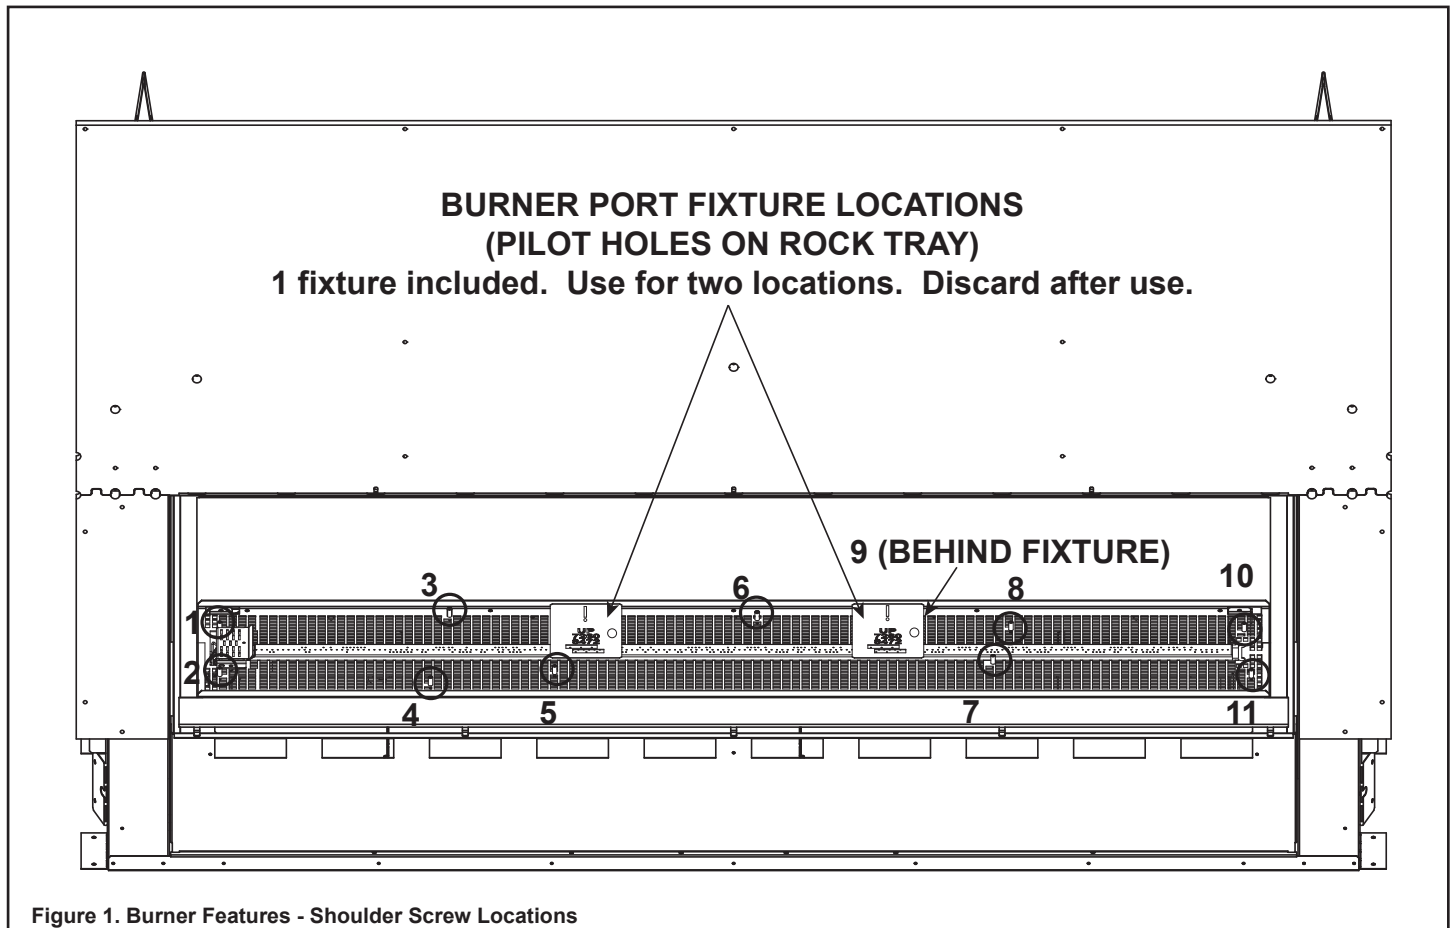

Figure 1. Burner Features - Shoulder Screw Locations
- Ceramic Logs (8)
- Shoulder Screws (11)
- Self-Tapping Screws (13)
5. Install eleven shoulder screws into pilot holes in media tray. Locations are indicated in Figure 1.
6. There are twelve burner port holes that must be plugged in order to prevent sooting. There are in two groups of six holes. A burner port fixture will be installed on top of the designated port holes. See Figure 1 for location.